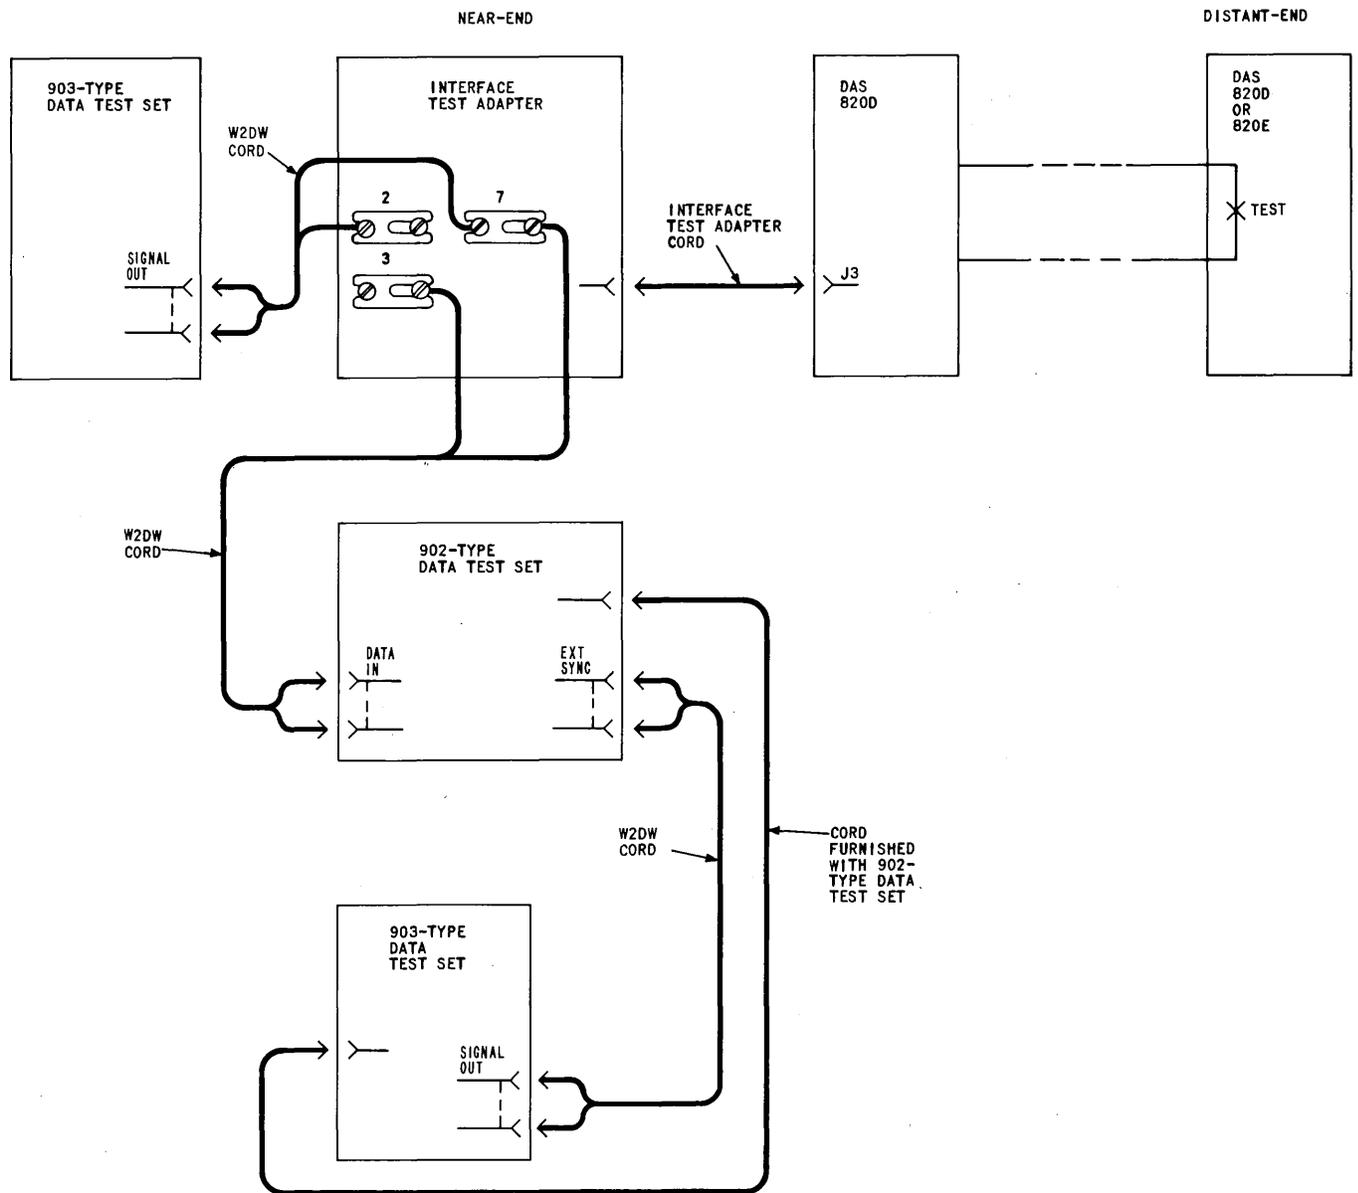

Fig. 4—Distortion Measurement Using 901-, 902-, and 903-Types Data Test Sets
3.20 The block diagram (Fig. 4) shows the equipment setup at the terminal for testing both directions of transmission. This checks the transmitter and receiver of both data sets and the two directions of transmission of the connecting facilities.